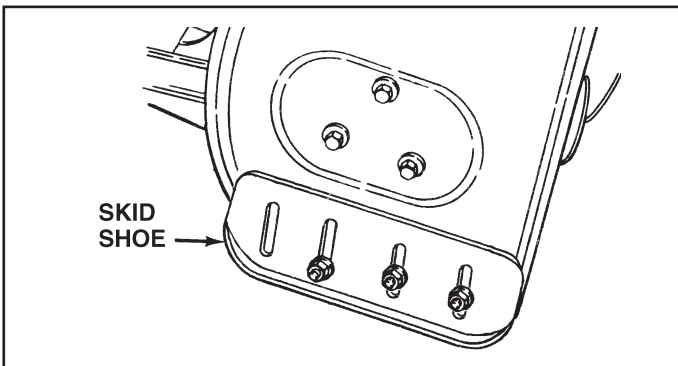

FIGURE 33
(Refer to figures 33 and 34 on page 20.)
- To adjust the skid shoes, raise the snow thrower off the ground and place a block under each end of the scraper plate. Loosen the six hex nuts securing the skid shoes to the housing. Adjust the skid shoes up or down and retighten the nuts securely. Adjust both skid shoes to the same height to keep the housing and the scraper plate level. See figure 33.